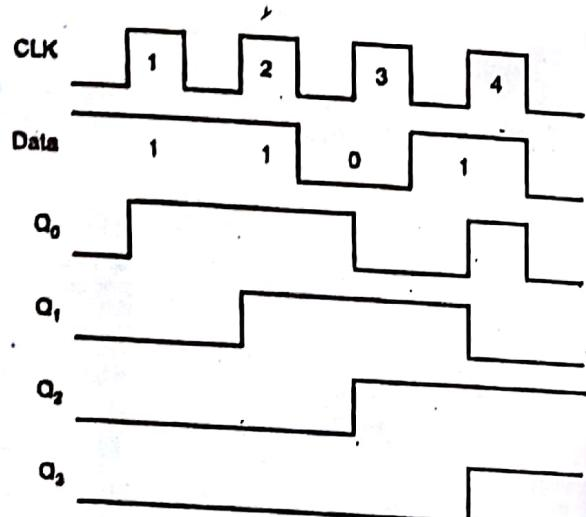

Fig. 8.10.
**Solution :** Fig 8.10 shows the diagram depicting the status of register.